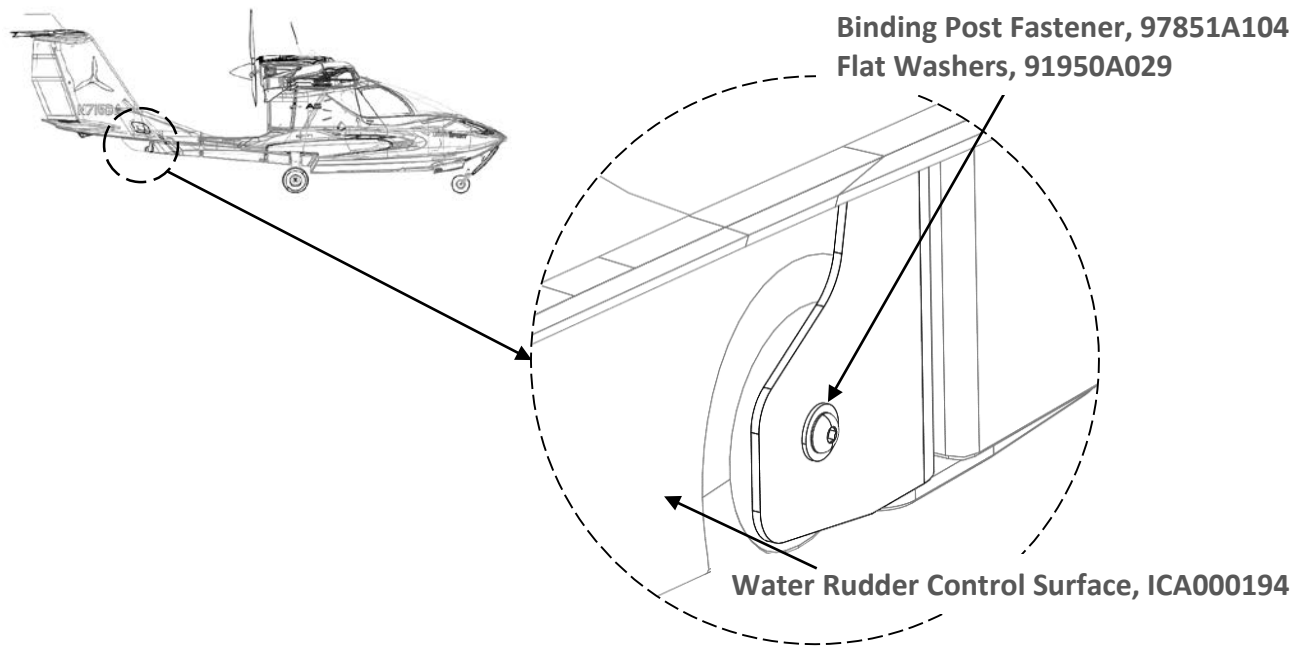

Figure 1 - Removal of Binding Post Fastener and Water Rudder Control Surface
1. Remove the paired Binding Post Fastener, 97851A104, and Flat Washers, 91950A029, from the Water Rudder Control Surface Installation, as indicated in Figure 1.